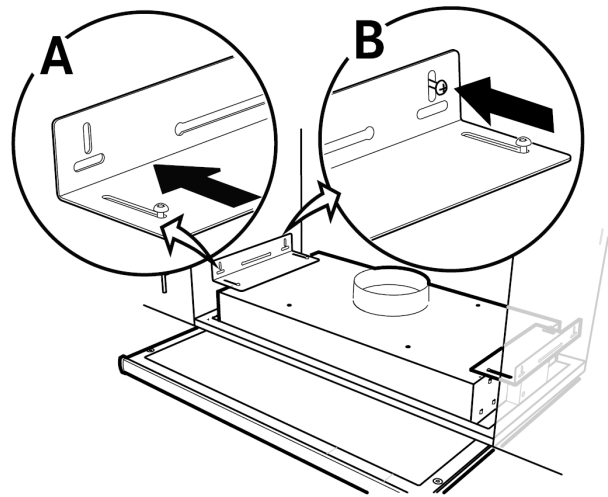

Fig. 5 Installation using brackets
2. Attach the brackets as far into the cooker hood as possible. Insert the cooker hood up into the hole in the base of the cupboard. Pull out (figure 5, pos. A) and use screws to fasten the brackets to the sides of the cupboard (figure 5, pos. B). Tighten the brackets in the cooker hood.